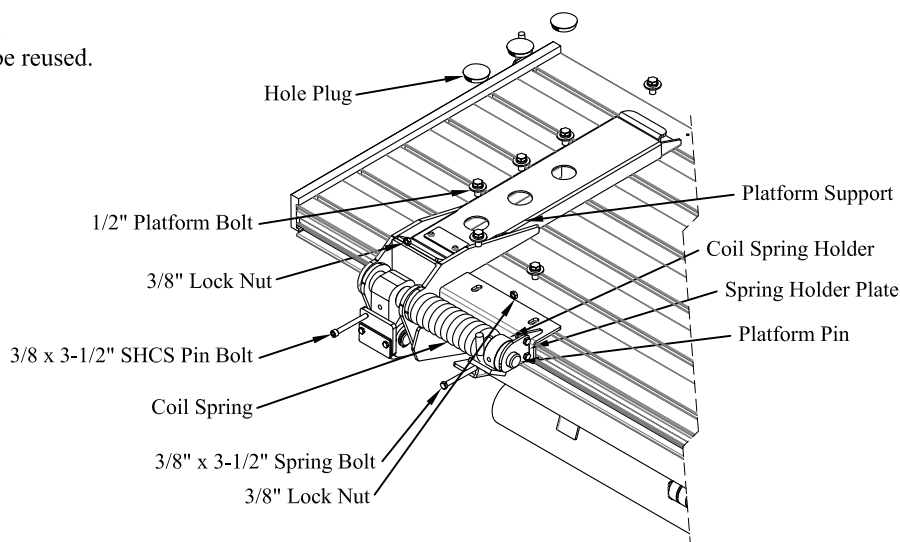

Figure 2: Platform Hardware (other side similar).
2. **REMOVE** the 3/8" x 3-1/2" spring bolts (Figure 2).
3. **REMOVE** the spring holder plates, coil spring holders, and coil springs (Figure 2).
4. **ROTATE** the platform pin slightly (1-2°) to **REMOVE** the 3/8" x 3-1/2" SHCS pin bolts (Figure 2).